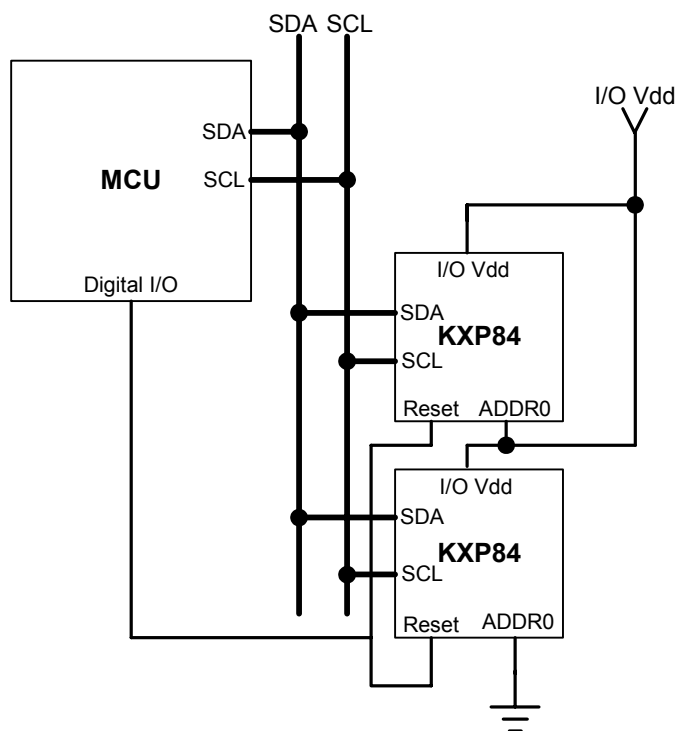

Figure 1 Multiple KXP84 I²C Connection
The KXP84 has the ability to communicate on an I²C bus. I²C is primarily used for synchronous serial communication between a Master device and one or more Slave devices. The Master, typically a micro controller, provides the serial clock signal and addresses Slave devices on the bus. The KXP84 always operates as a Slave device during standard Master-Slave I²C operation as shown in Figure 1 on the following page.
Transactions on the I²C bus begin after the Master transmits a start condition (S), which is defined as a high-to-low transition on the data line while the SCL line is held high. The bus is considered busy after this condition. The next byte of data transmitted after the start condition contains the Slave Address (SAD) in the seven MSBs (Most Significant Bits), and the LSB (Least Significant Bit) tells whether the Master will be receiving data '1' from the Slave or transmitting data '0' to the Slave. When a Slave Address is sent, each device on the bus compares the seven MSBs with its internally-stored address. If they match, the device considers itself addressed by the Master. The KXP84's Slave Address is comprised of a programmable part and a fixed part, which allows for connection of multiple KXP84's to the same I²C bus. The Slave Address associated with the KXP84 is 001100X, where the programmable bit, X, is determined by the assignment of ADDR0 (pin 10) to GND or I/O Vdd. Figure 1 above shows how two KXP84's would be implemented on an I²C bus.